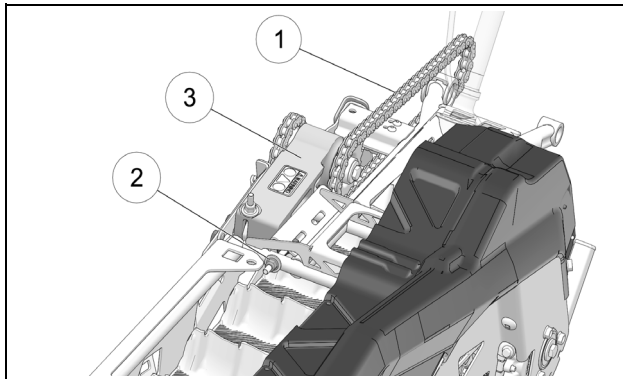

Figure 4
**NOTE:** Loosen bolt (3) by only a half-turn. This bolt must be kept under some clamp load while adjusting chain tension.
- Adjust the primary drive chain tension (1) by turning adjustment nut (2) at the rear of the tensioner (3) to eliminate play in the primary chain. See Figure 4.